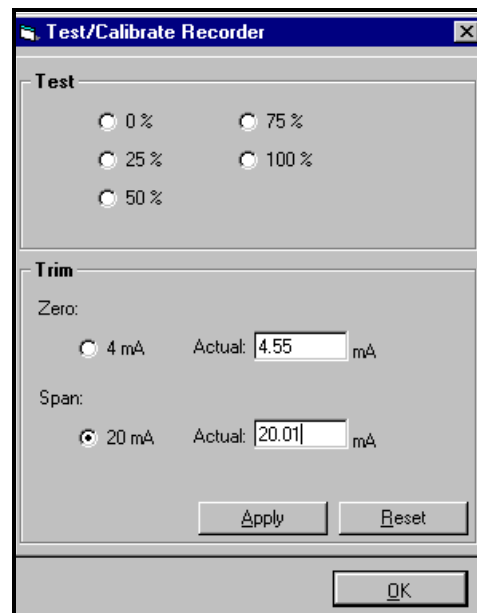

Figure 3-11: Test/Calibrate Recorder
3. The screen should now look similar to Figure 3-11 below. Click on the 4 mA option in the Trim section.